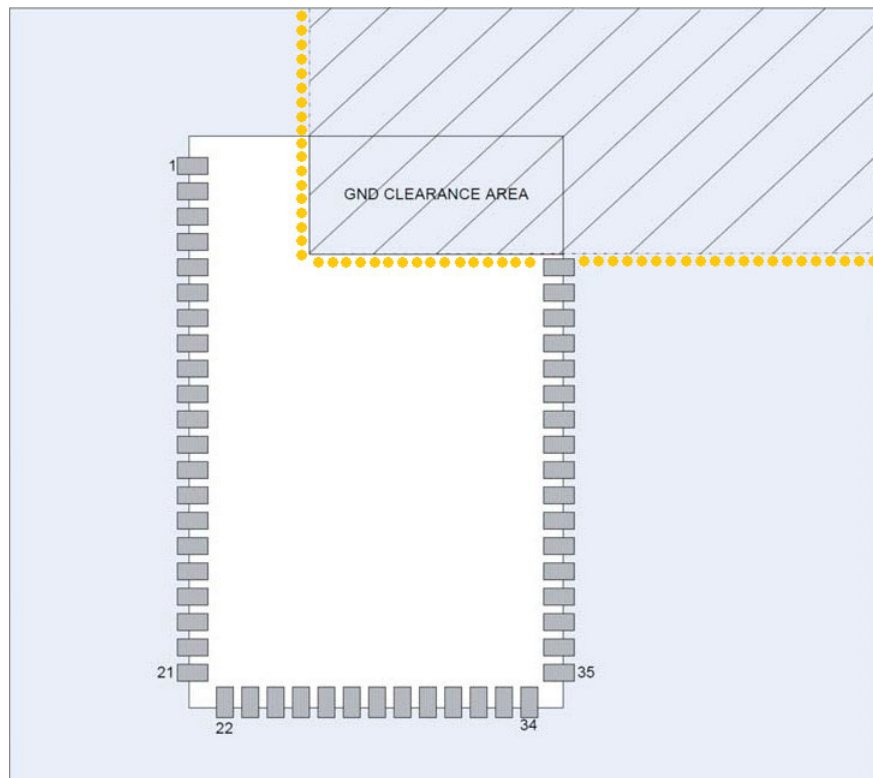

Figure 3-7: BC127/BC127-HD Application Placement Considerations
- The area under and adjacent to the right-hand side of the module should have all ground and tracking removed as shown in Figure 3-7, and the hashed area should be cleared to the edges of the application PCB in the top right-hand corner.